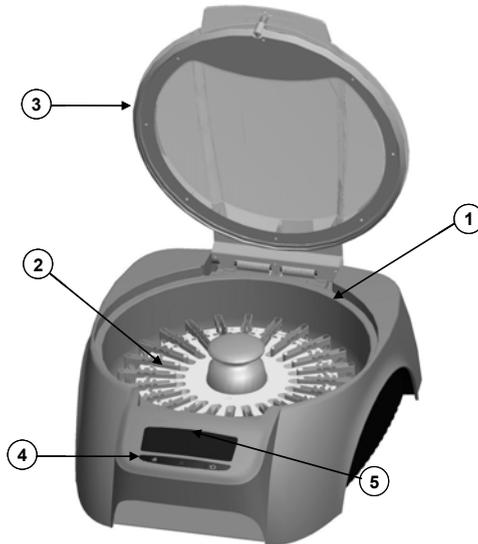
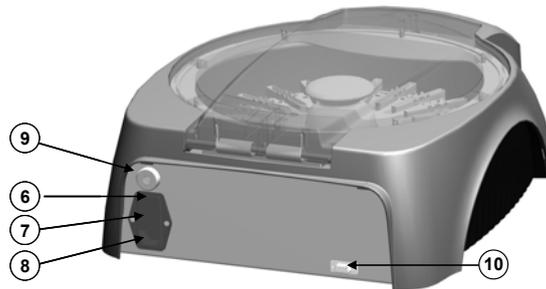

Figure 1: General view of the *DG Spin* centrifuge
Figure 2 : Rear view of the *DG Spin* centrifuge
Figure 1 and Figure 2 show, respectively a front and rear image of the *DG Spin* centrifuge.
The *DG Spin* centrifuge has a safety transparent cover (Ref. (3), Figure 1) with a hinge and an electromagnetic safety closure.
The *DG Spin* centrifuge has three buttons (Ref.(4), Figure 1) for control of centrifugation.
Pressing the  button, the Cover to get to inside (Ref. (3), Figure 1) of the *DG Spin* centrifuge opens. The Cover will open only if the motor is completely stopped.
The Display (Ref. (5), Figure 1) informs the OPERATOR of the remaining time to the end of centrifugations and speed. It also informs of possible error situations.
The *DG Spin* centrifuge is open, under normal conditions (plugged), by pressing the button . However, if it is necessary to open it in case of power cut or malfunction of the electromagnetic security closure, the *DG Spin* centrifuge has a Security ring in the rear part of the equipment (Ref. (9), Figure 2) for manual opening.
- Do not position the equipment so that it is difficult to operate the mains switch (Ref. (6), Figure 2).
- Connects the mains cord (Ref. (3), Figure 2) to the centrifuge and the mains.
- Switch on the Main switch (Ref. (6), Figure 2).